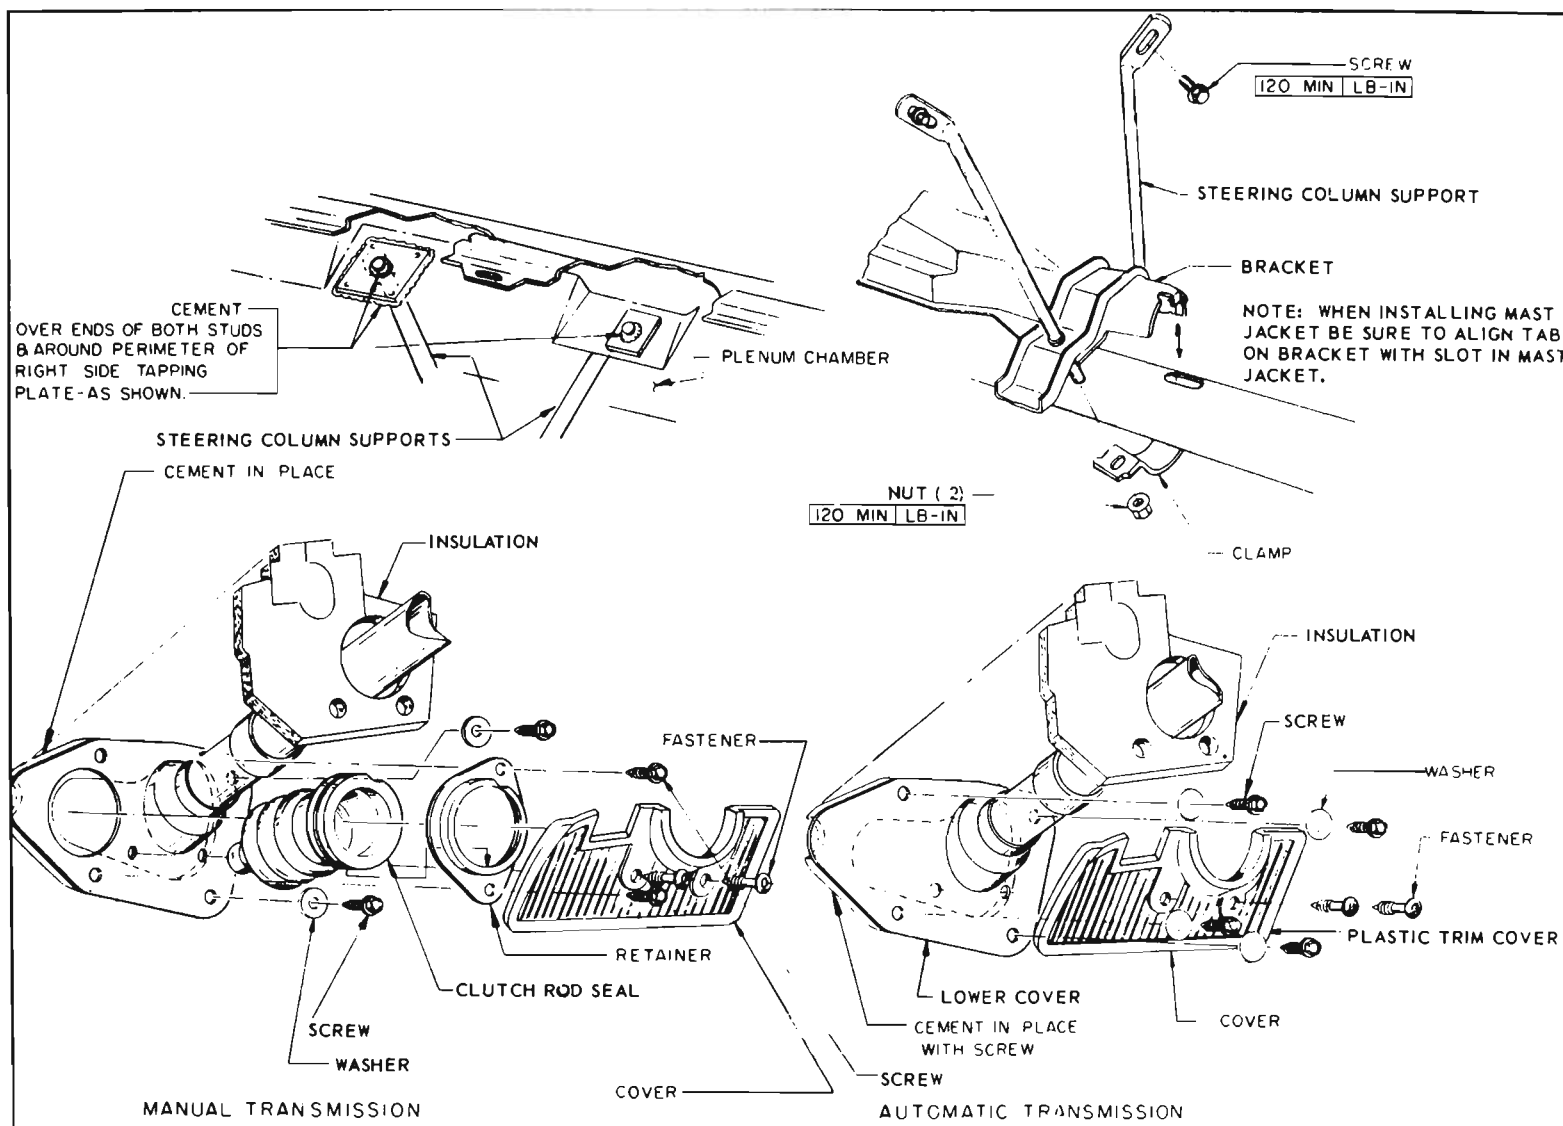

Figure 8-68—Mast Jacket Installation
4. Remove screws that retain toe pan cover to toe pan. See Figure 8-68.
NOTE: When installing mast jacket be sure to align tab on bracket with slot in mast jacket (see Figure 8-68).